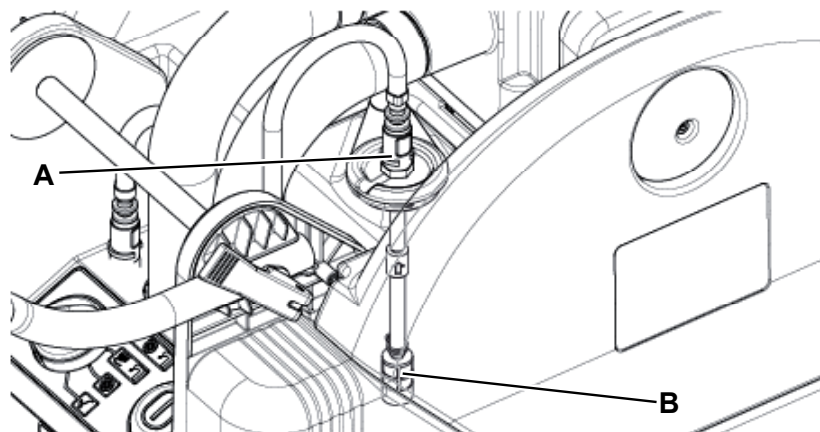

Figure 4
2. Make sure that the power supply cable (10) is disconnected from the electrical mains.
3. Remove the solution hose plug (A, Fig. 4), carefully remove the hose from the tank and clean the filter (B) with water.